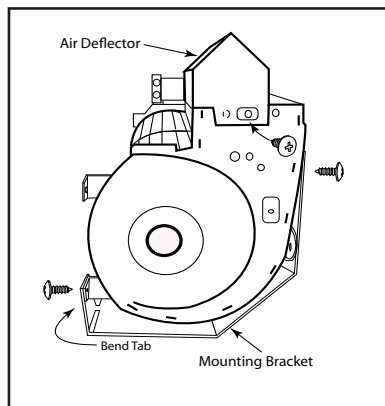

Fig. 1 Deflector installation.
2. Mount the air deflector on the F-165-1 fan. See Fig 1. The deflector sits on top of the fan as shown and secures to the middle hole of the fan on each side. **NOTE:** Some installations may not require the deflector.
3. If using the mounting bracket supplied with the F-165-1 bend the tabs as shown in Fig 1. **NOTE:** In some installations you may use the existing mounting bracket from the appliance. Secure the mounting bracket for the fan in (4) places using the supplied sheet metal screws mating to the aligned holes on the fan housing.